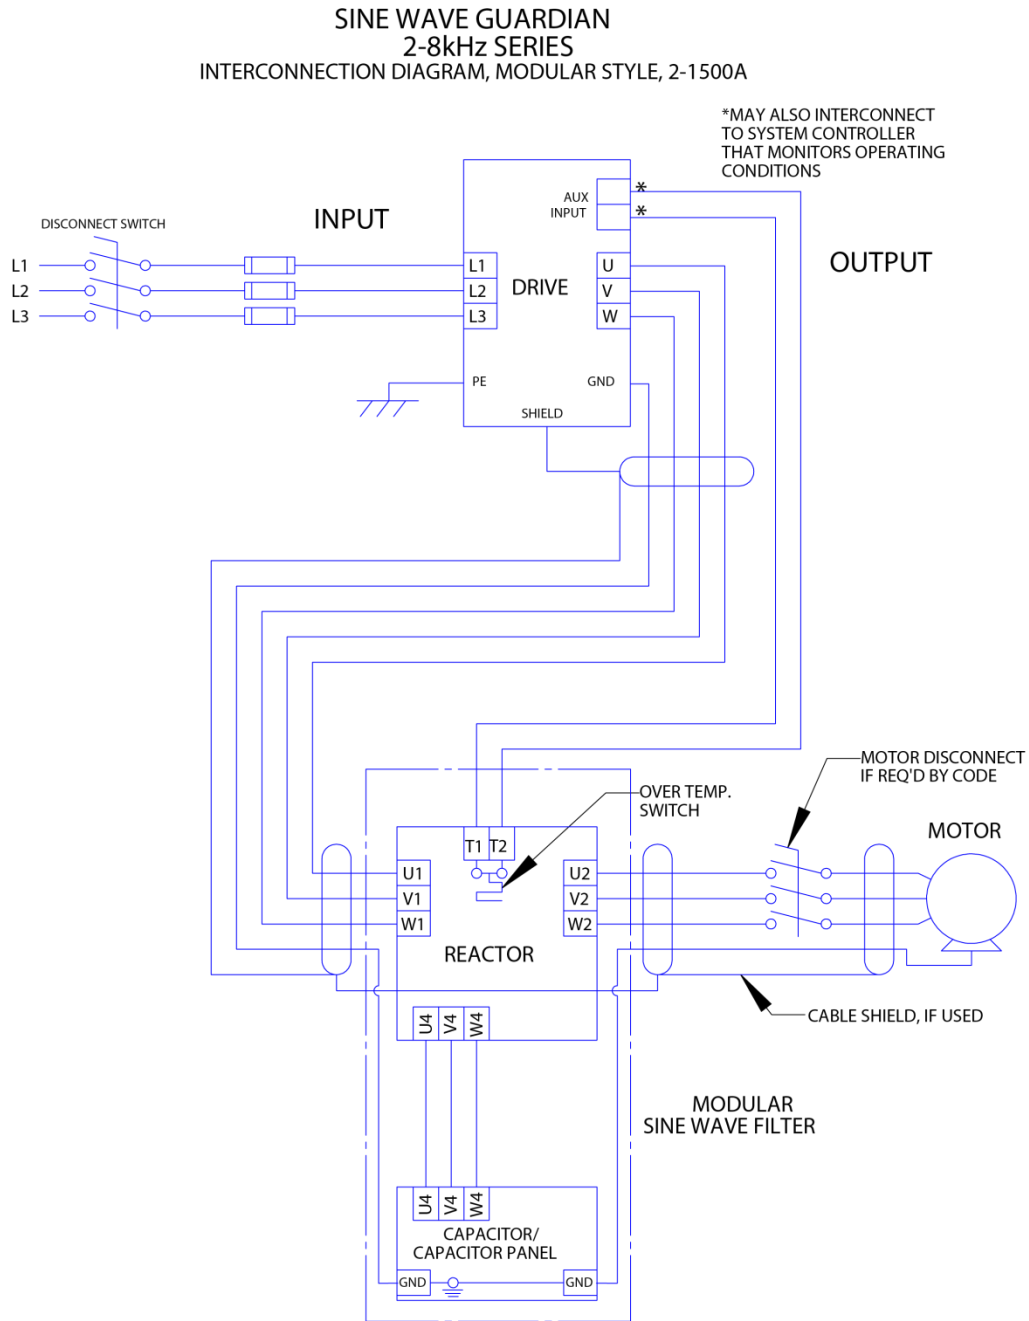

Figure 3-2: Open Panel Interconnection
- For panel mounted filter applications, interconnection between the filter, its power source, the cap-panels, and the drive is shown in Figure 3-2 (p12).